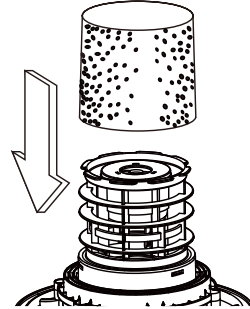

Fig. 14
23. Carefully slide the foam wet filter 22 down over the filter cage making sure the cage is completely covered. Fig. 14.